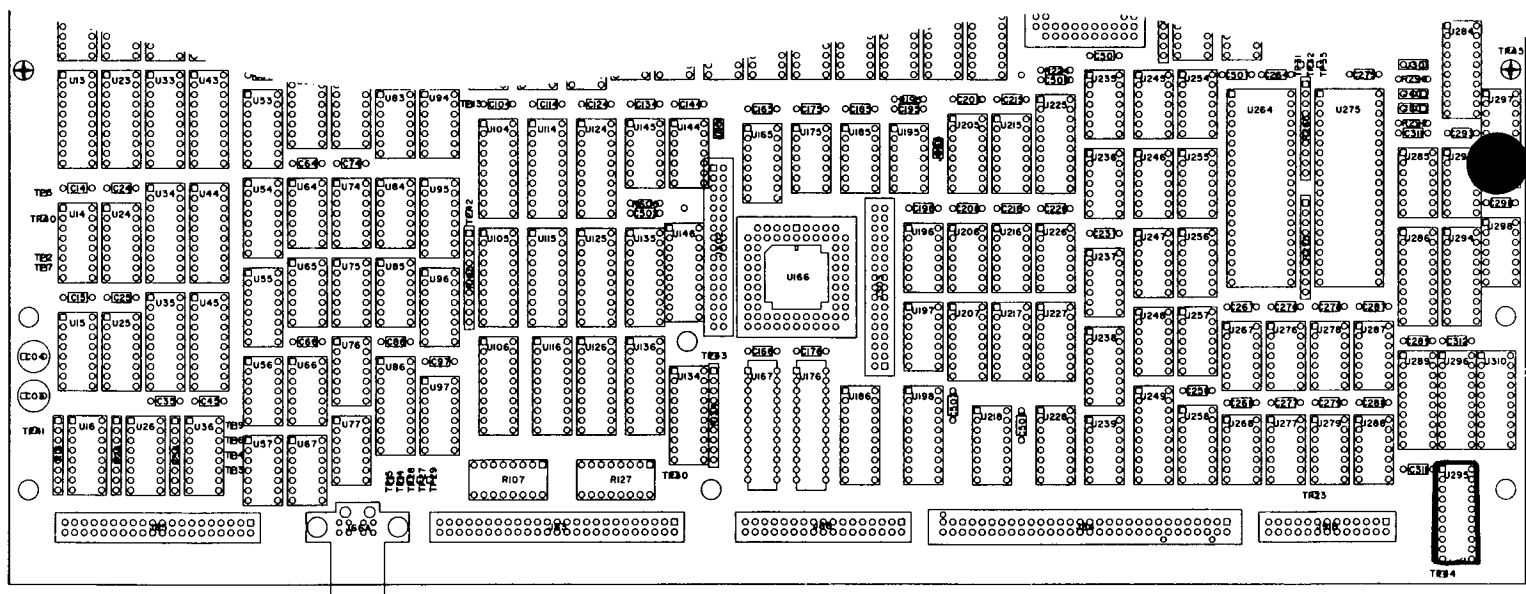

Figure 15. - Partial, Time Base circuit board A6.
- () 42. Remove U295, microcircuit and replace with the new microcircuit, pn 160-4526-01, that is provided in this kit, refer to figure 15, for component location.